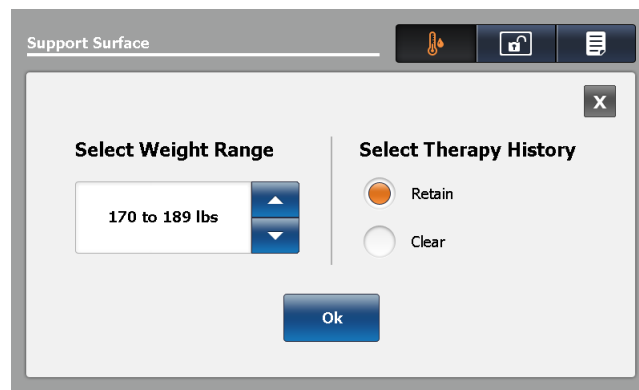

Figure 45: Surface setting screen
1. Tap the up and down arrows to select the desired weight range (Figure 45 on page 54).
Tap **Retain** to keep therapy history (see Figure 45 on page 54).
Tap **Clear** to delete therapy history (see Figure 45 on page 54).